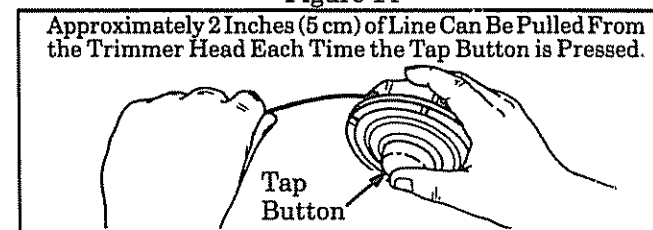

Figure 15
- j. Obtain correct line length of 4 inches (10 cm) by pressing the tap button (Figure 15) and pulling on the line again.